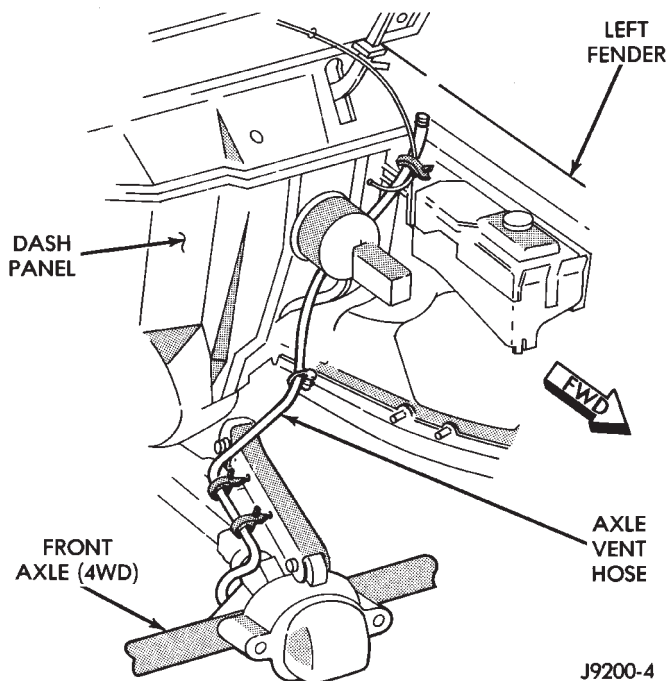

Fig. 10 Front Axle Vent Hose (4WD)—XJ Vehicles
(1) Inspect all hose and tubing fittings for looseness and corrosion. Inspect the rubber hoses for brittleness and cracks. Thoroughly inspect the hose ends (those that are slipped over nipple connectors) for splits (Fig. 10, 11, 12, 13, 14, 15 and 16).